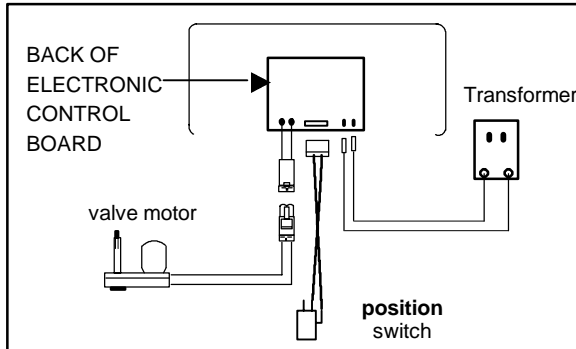

Figure 3
4. Disconnect wiring harness from position switch. **Figure 3.**
5. Unplug the motor terminals from the back of the electronic control board. **Figure 3.**
23. Carefully plug in motor terminals to the back of the electronic control board. Plug wire harness back onto the position switch. Slide top cover back into position. **Figure 3.**